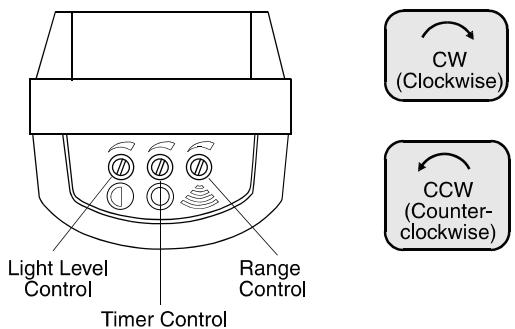

Figure 6. Adjustments
is detected. For time adjustment, see Figure 6. The time is increased when you turn the control clockwise (CW).
No, the **GL** has a day/night photocell sensor designed to enable the unit during dark hours only (see Figure 6). A light level control allows you to select the ambient light conditions at which the **GL** will be automatically enabled. Turning the control counterclockwise (CCW) will shift the "activation threshold" closer to total darkness.
- Set the timer control to minimum (max. counterclockwise - see Fig. 6), to obtain an operating time of about 4 seconds.
- Rotate the light level control maximum clockwise (Fig. 6), to make the unit operate during daylight hours. This temporary setting is necessary for walk testing.
- Set the range control maximum clockwise to obtain maximum range (Fig. 6).